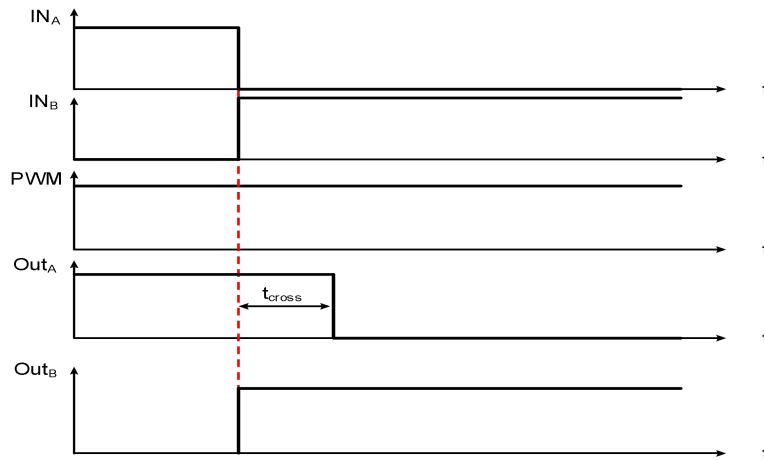

Figure 6. Low-side turn-on delay time
- (1) Parameter guaranteed by design and characterization; not subjected to production test.
- (2) Specifications subject to change without notice.
- (3) See Figure 6.